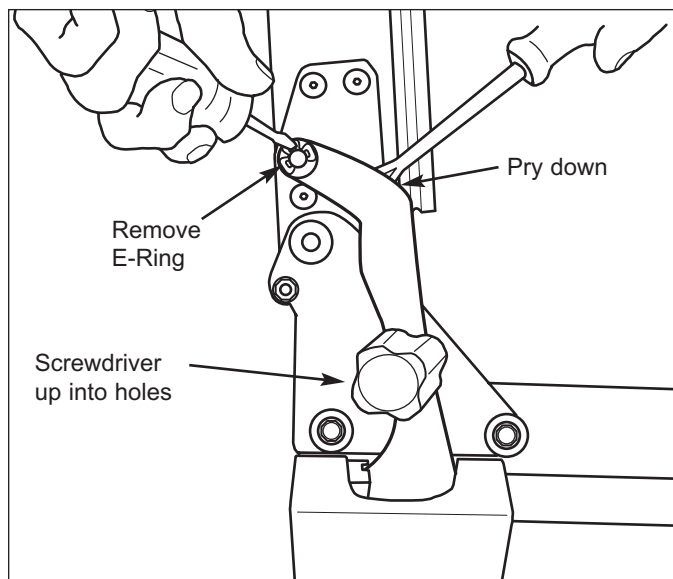

Figure 7-24. Door Closer Disconnect
**Door Closer Disconnection** - To disconnect a door closer (See Figure 7-24):